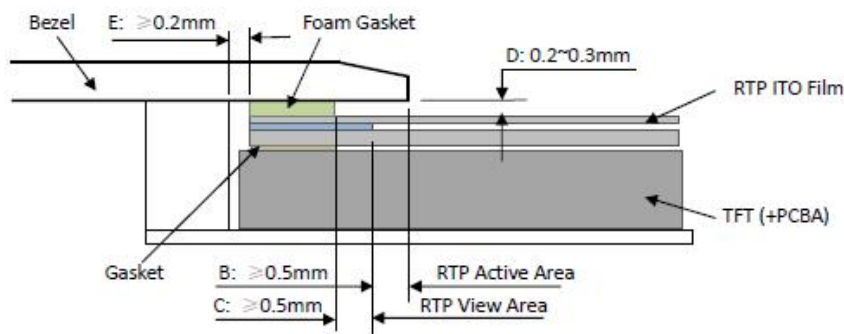

Figure 4
- It should bezel touching the RTP Active Area (A.A.) to prevent abnormal touch.It should left gap $D=0.2\sim 0.3\text{mm}$ in between. (Figure 4)
- Outer bezel design should take care about the area outside the A.A. Those areas contain circuit wires which is having different thickness. Touching those areas could de-form the ITO film. As a result bezel the ITO film be damaged and shorten its lifetime. It is suggested to protect those areas with gasket (between the bezel and RTP).The suggested figures are $B\geq 0.50\text{mm}$; $C\geq 0.50\text{mm}$. (Figure 4)
- 为避免面框直接压在动作区 (A. A.) 上造成误操作, 面框与电阻触摸屏 (RTP) 之间应留有一定的空隙 $D=0.2\sim 0.3\text{mm}$ 之间. (附图 4)
- 设计面框时, 要注意用面框保护触摸屏四周的非保证操作区域, 因为布线区域在此处形成一台阶, 在此区域附近操作时 ITO Film 变形较大, 容易导致 ITO 损坏而降低寿命。为保护 RTP 和避免误操作, 在 RTP 与面框之间垫缓冲物 (Gasket), 我们建议设计面框应覆盖动作区的边缘, 面框边缘到 V. A. 区的距离 $B\geq 0.50\text{mm}$; 垫圈内边缘到 V. A. 区的距离 $C\geq 0.50\text{mm}$. (附图 4)
RTP. (Figure 4)
RTP 外侧的间距 $E \geq 0.2\text{mm}$. (附图 4)